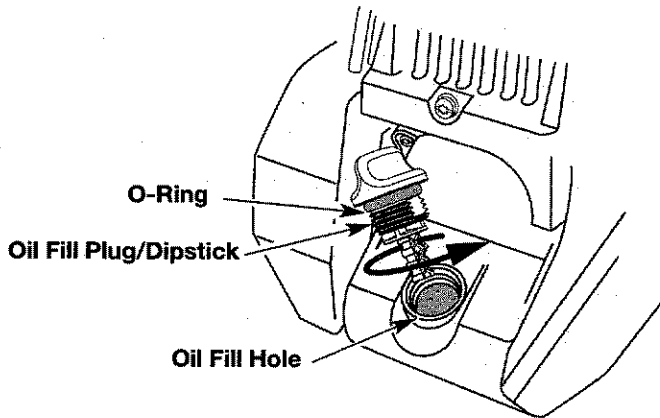

Fig. 40
6. If the level is low, add a small amount of oil to the oil fill hole and recheck (Fig. 40). Repeat until the oil level reaches the top of the dipstick.
**NOTE:** Make sure the O-ring is in place on the oil fill plug/dipstick when checking and changing the oil (Fig. 40).